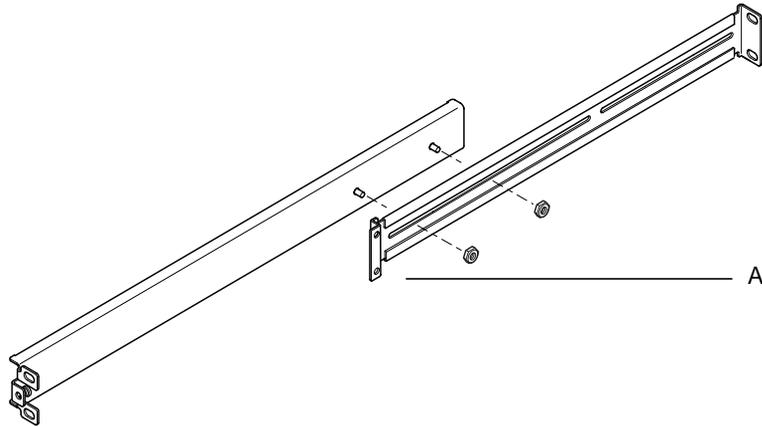

FIGURE 3-1 Slide Mounts for Standard 19-inch Expansion Rack
1. **Position the two parts of the slide so that the double-angled ear (A) is in the correct position.**
For a standard 19-inch wide rack, the double-angled end (A) must be at the front (see FIGURE 3-1).